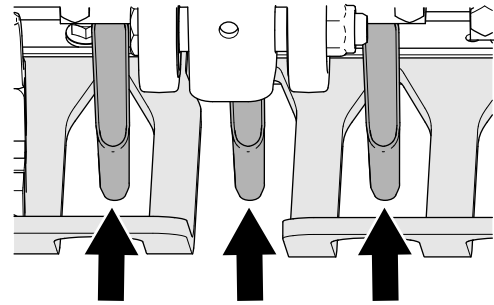

Figure 44
- Check the alignment of the turf guard slots to the tines to ensure that they are centered (Figure 44).